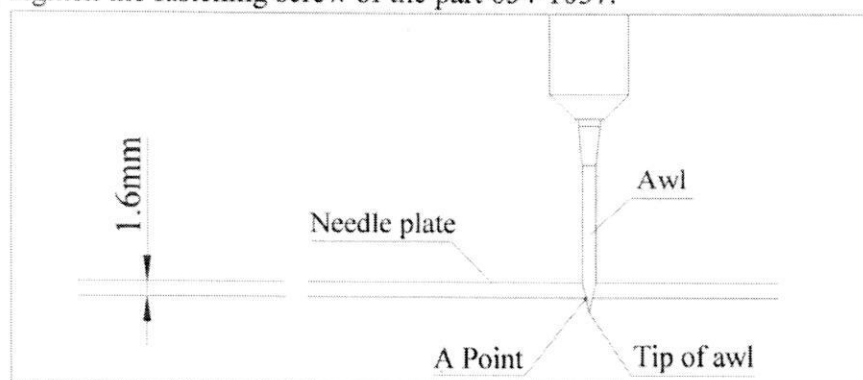

Fig.2
4.1 The adjustment setting of the awls' height (Fig.2)